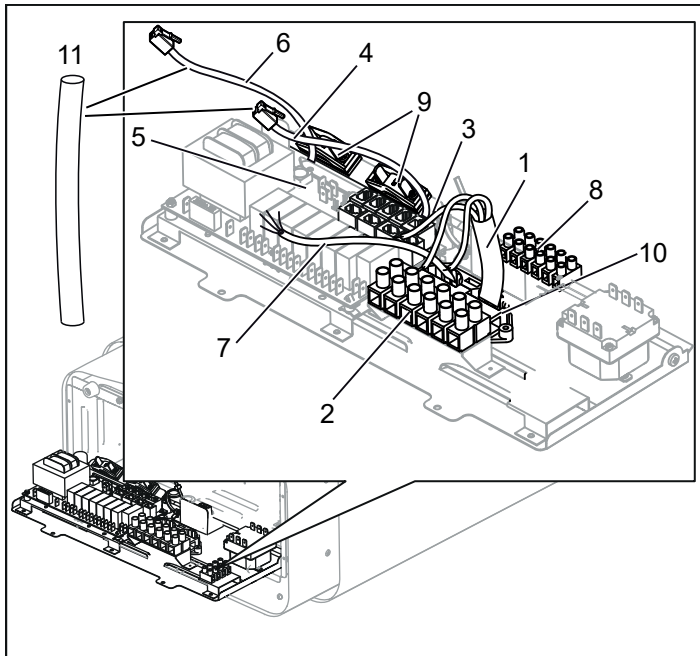
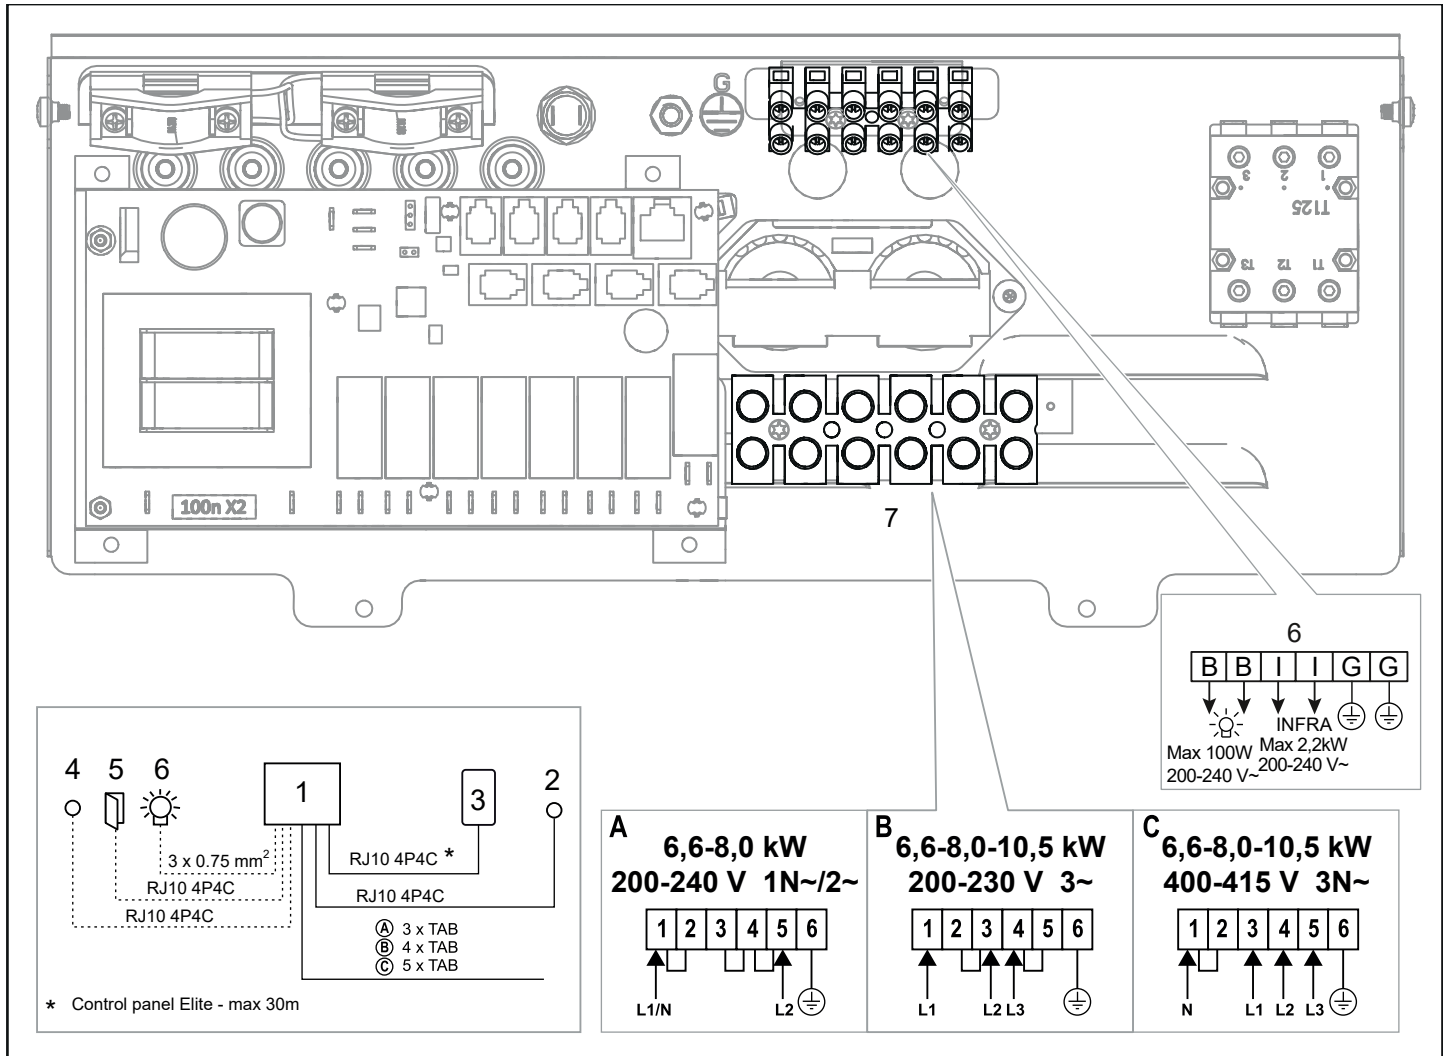
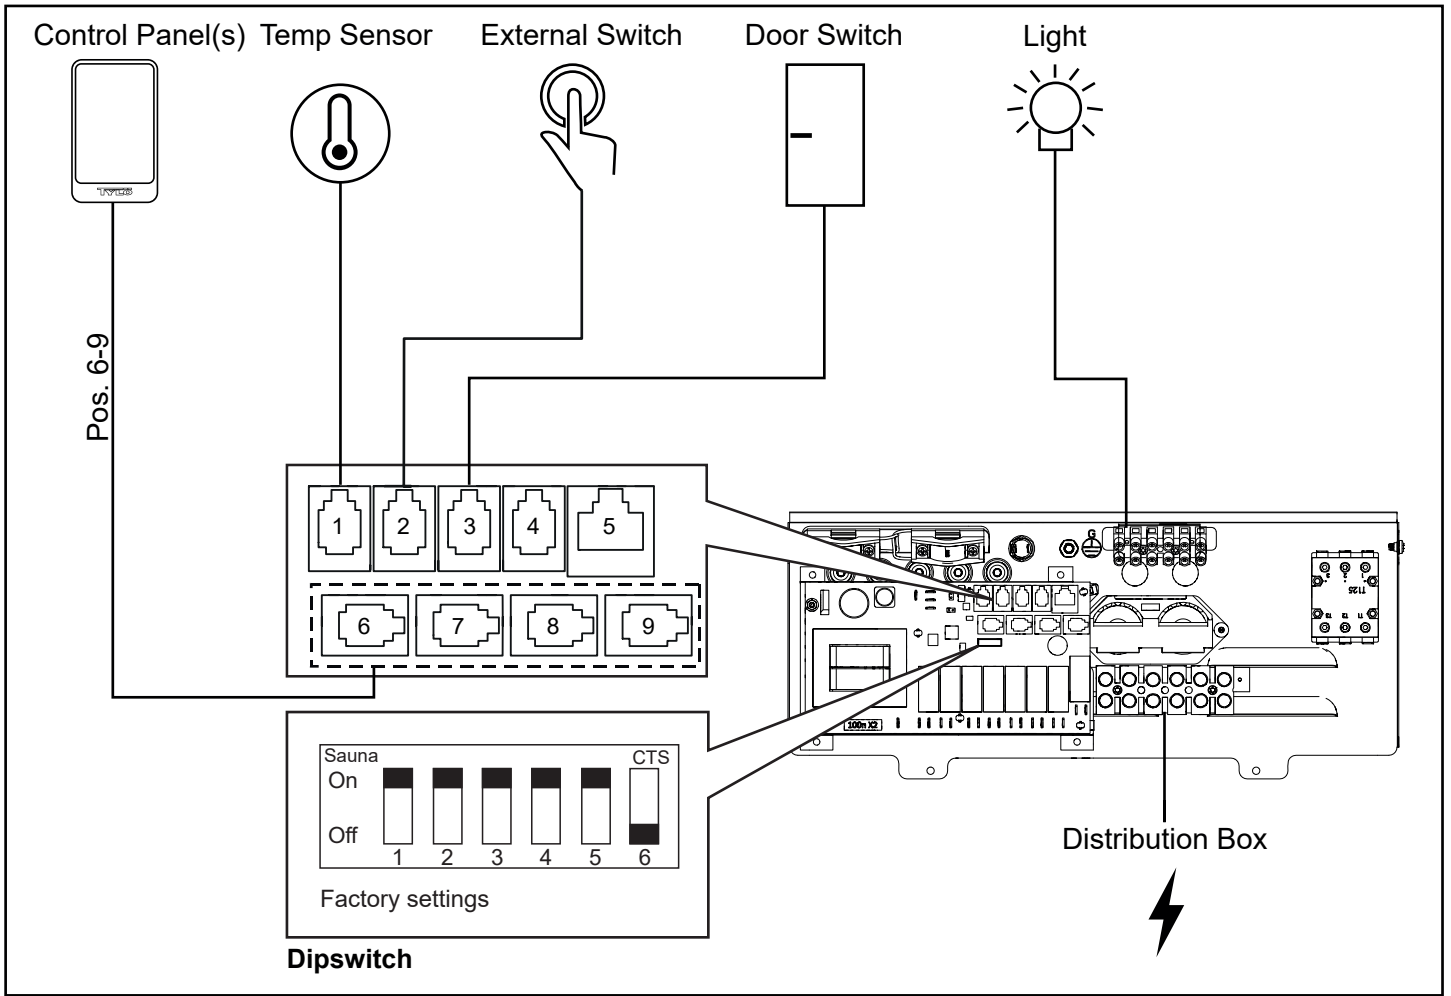

Figure 9: Circuit board
Figure 17: Wiring diagram
Figure 18. Schematic diagram of installation Sense Elite
3. Connect the electrical cable (see Figure 9) according to the wiring diagram (see Figure 17).
4. Run the cables for the control panel and the temperature sensor through the cable grommets (see Figure 9). Connect the control panel cable to one of the four RS485 contacts (positions 6-9) (see Figure 18).
5. Connect the sensor cable to the NTC contact on the circuit board (position 1) (see Figure 18).
6. Connect the light cable (if relevant), see Figure 9, according to the wiring diagram Figure 17.
Contact Tylö Customer Service before connecting to voltages or numbers of phases that are not listed in the wiring diagram Figure 17.